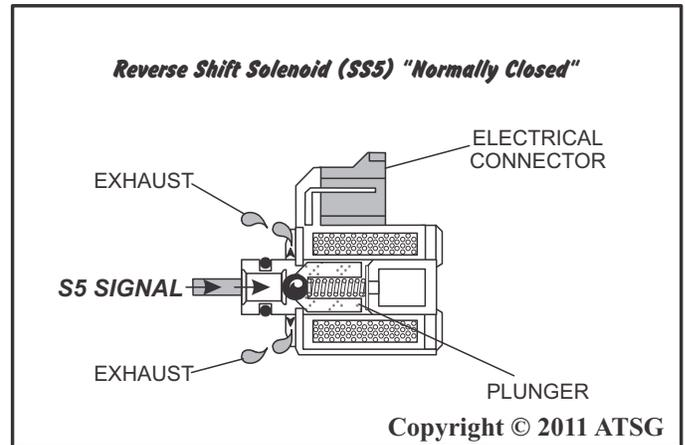

Figure 11
The reverse shift solenoid is a normally-closed (N.C.) ON/OFF type solenoid controlled by the TCM. Line fluid feeds the S5 signal fluid through orifice No. 5. When the reverse shift solenoid is energized (ON), S5 signal fluid is allowed to exhaust through the base of the solenoid, as shown in Figure 11. When the reverse shift solenoid is OFF, S5 signal fluid is blocked from exhausting through the base of the solenoid, creating S5 signal fluid pressure that acts on the shift pressure relay valve, against spring force, to move the valve into the applied position.